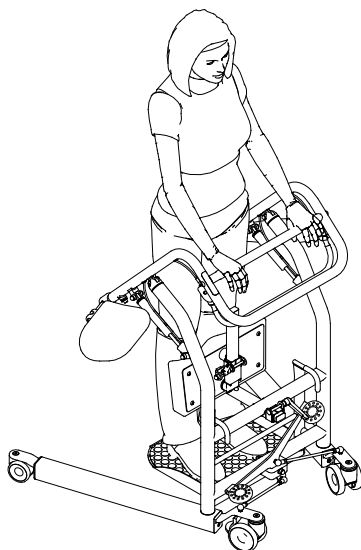

Figure 6
10. Position the seats under the patient and have them sit (Fig. 6).